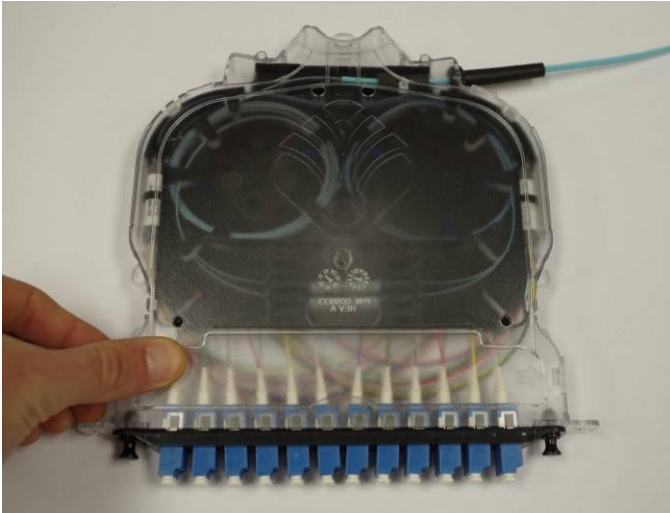

Figure 2
Step 2: Place the top cover on to the cassette until it clicks into place (**Figure 2**).